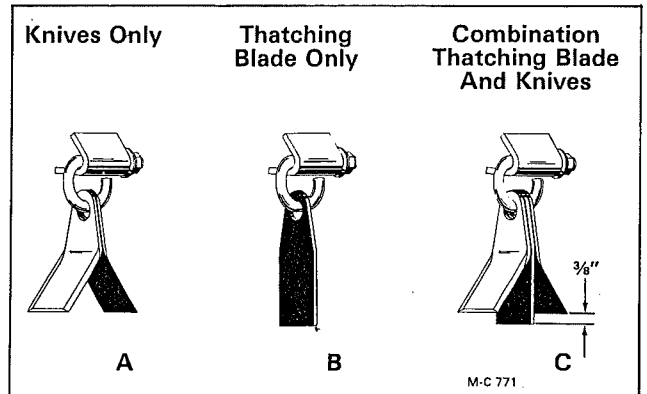

Figure 11 - FM Model Knives - Above S/N 47197
1. Thatching blades can be installed between the two knives (see "C" in Figure 11) or the knives can be removed and thatching blades alone installed on the hangers (see "B" in Figure 11). Refer to "Knife and Thatching Blade Replacement" on page 14 for removal and installation procedure.